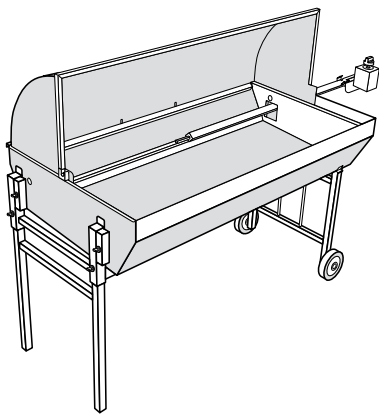

FIGURE F11
3. Remove burner by unbolting it on the left-hand side. Withdraw burner through the hole (Figure F11).